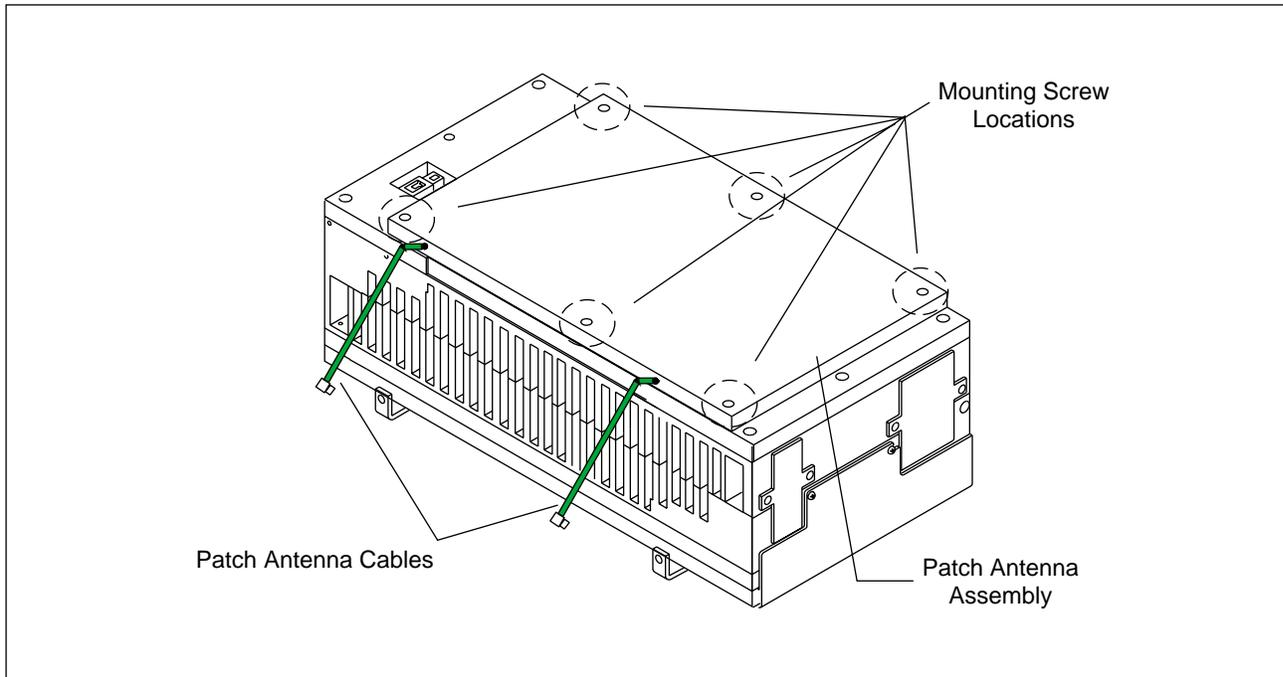

Figure 6-16. Radio Head Patch Antenna Assembly
7. Remove the six screws that secure the patch antenna assembly to the Radio Head. See Figure 6-16 on page 6-45.
17. If using a patch antenna, mount the patch antenna and reinstall the six screws removed in Step 7 on page 6-44. See Figure 6-16 on page 6-45 for an illustration of an installed patch antenna assembly.